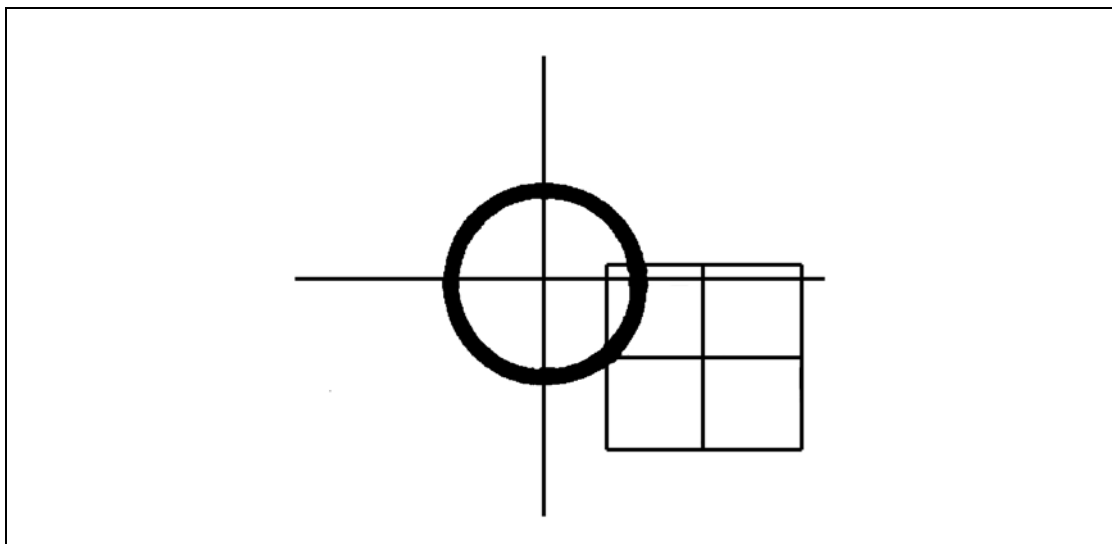

Figure B-10. Aiming point in the 2-mil circle.
(6) Score accuracy. The kit meets standards if the original aiming point stays in or on the 2-mil circle of the telescope reticle (Figure B-10). It fails the standards if the original aiming point moves outside the 2-mil circle.